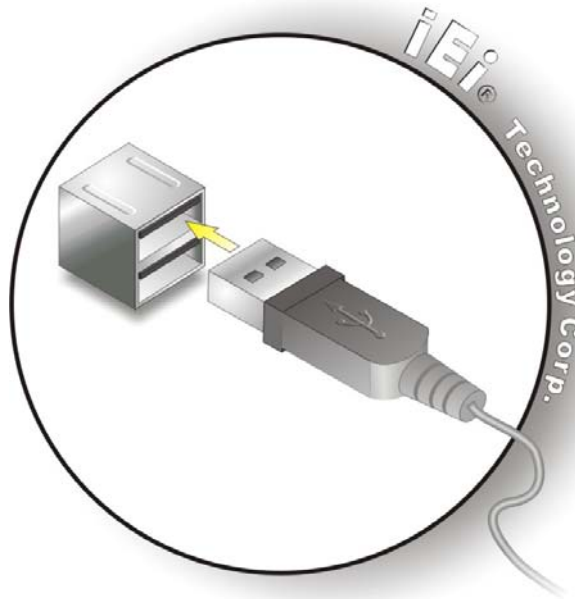

Figure 4-25: USB Connector
- Step 2:** Insert a USB Series "A" plug. Insert the USB Series "A" plug of a device into the USB Series "A" receptacle on the external peripheral interface. See **Figure 4-25**.